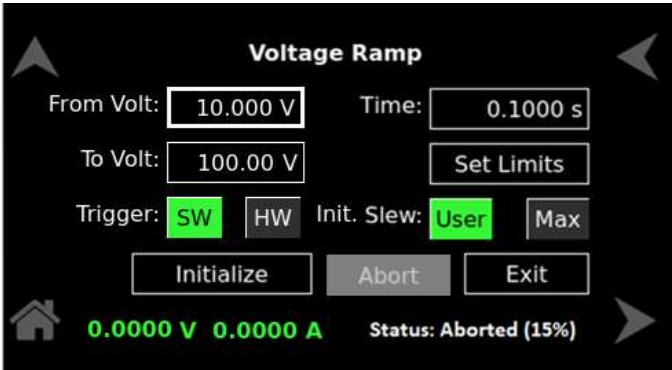

Figure 9-64. Status – Aborted
- e) **Aborted:** When the process is aborted (Initializing, Waiting for Trigger, Running), 'Aborted' is displayed in the status. Refer to Figure 9-64.